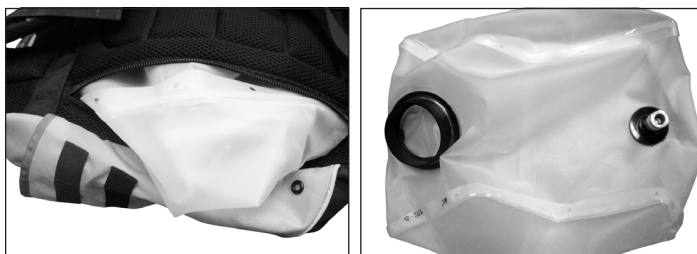

Figure 4.
4. Open zipper on back side of backpack and remove liner through this opening. (See Figure 4.)